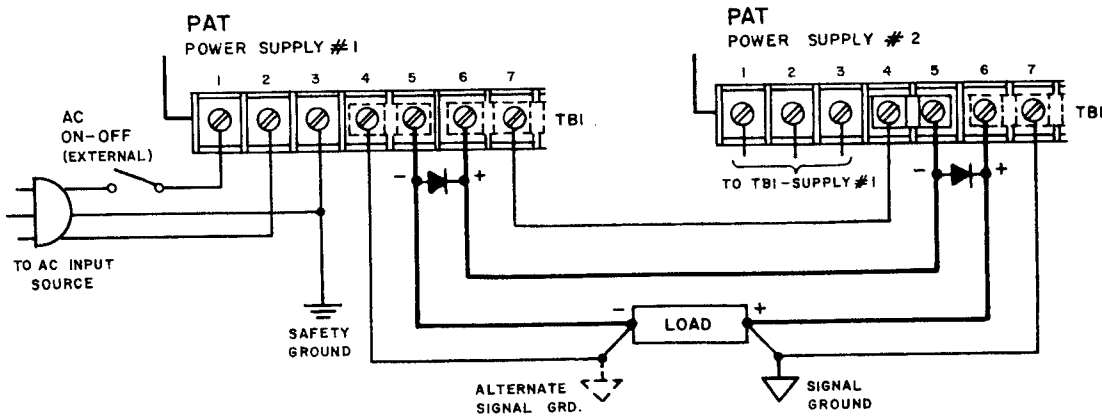

FIG. 3-11 SERIES CONNECTION OF PAT SUPPLIES.
3-34 GENERAL. Kepco PAT Modules can be series-connected for increased voltage output, provided the specified limits on voltage to chassis are not exceeded. When series-connected, the supplies should be protected by means of a semiconductor diode across the output terminals of each power supply, as shown in FIG. 3-11. The peak inverse rating of these diodes must be at least as large as the output voltage of the supply to which they are connected. The continuous current rating of the diodes should be at least as great as the largest short-circuit current of the interconnected supplies.
- a) Connect load as shown in FIG. 3-11. Keep voltage drop in load wires as low as practical by using heavy gauge wires.